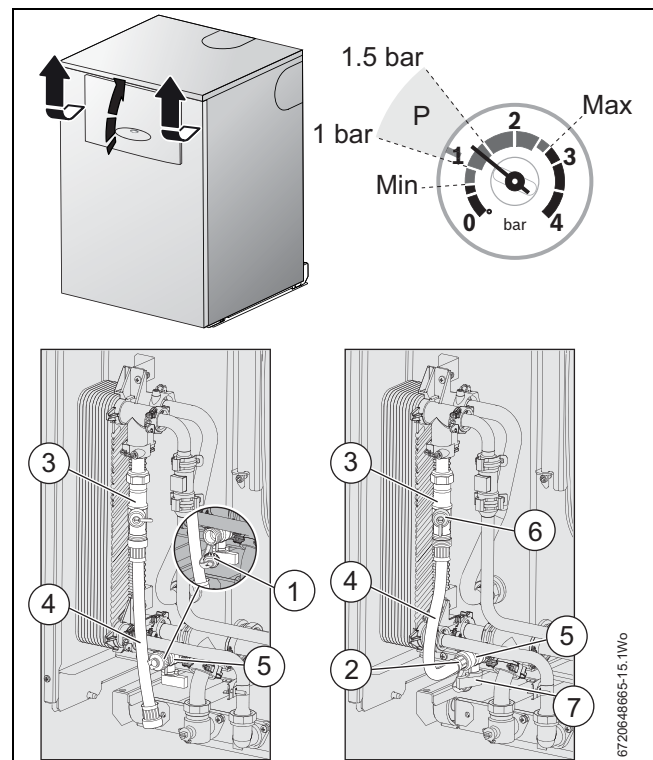

Fig. 32 Internal filling loop
- ▶ Fill the system to between 1 and 1.5 bar via the supplied internal WRAS approved filling loop figure 32 on page 26.